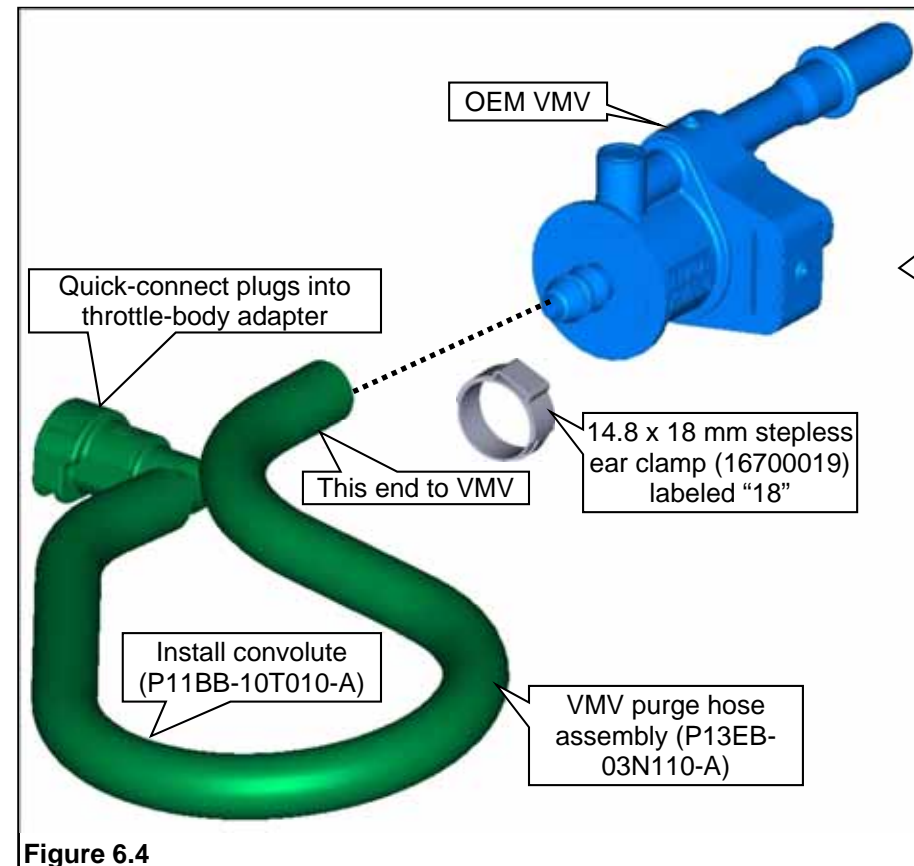

Figure 6.4
7. Connect the VMV-to-intake engine purge hose assembly to the VMV and is to be secured with a stepless ear clamp. **Note:** This clamp should NOT be tightened until after the orientation between the VMV and hose is correct with the assembly installed. Install convolute over the purge hose. **Figure 6.4.**